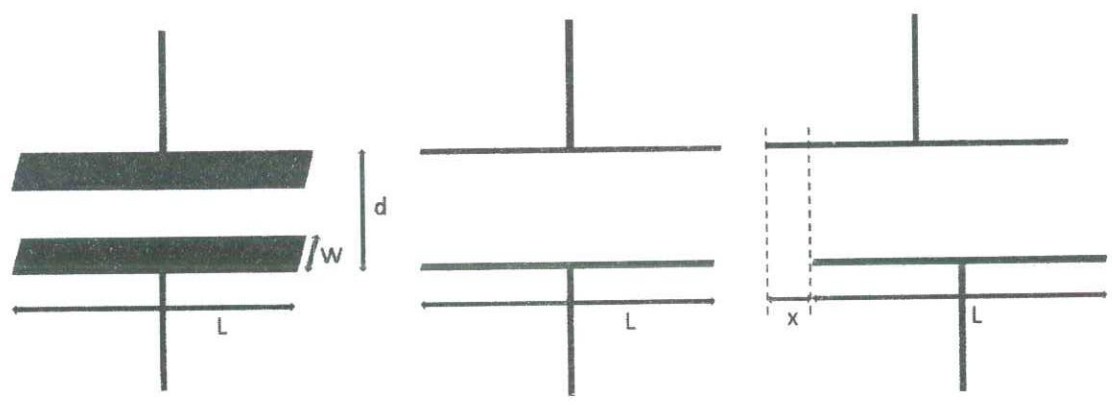

Figure Q4.b)
c) Consider a capacitor with width =  $W$ , length =  $L$  and separation between plates =  $d$  as shown in the Figure Q4.b).